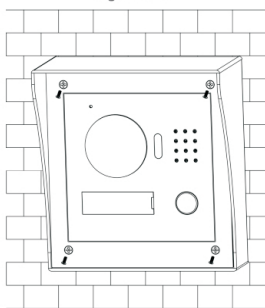

Figure 2-3
- Step 2** Align the device on metal bracket according to screw hole. At spot 2 fasten screw (M3 x 8 Cross recessed countersunk head tail machine screws --- galvanizing white), and fix device on metal bracket. See Figure 2-3.